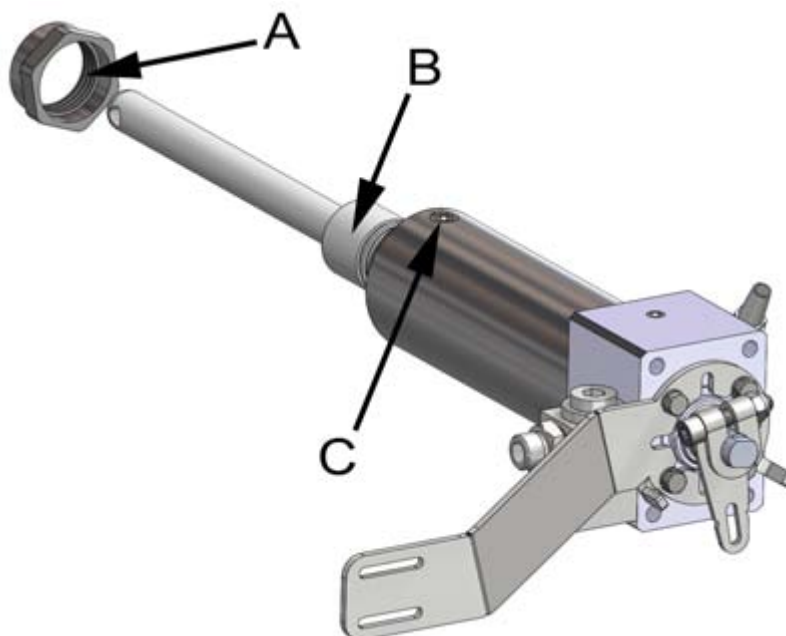
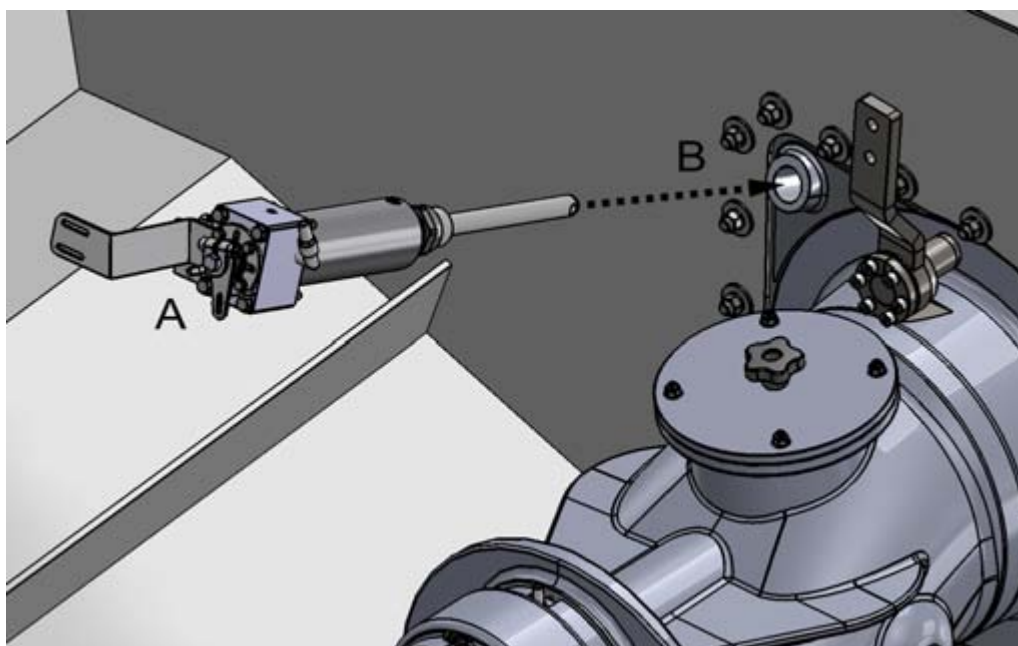
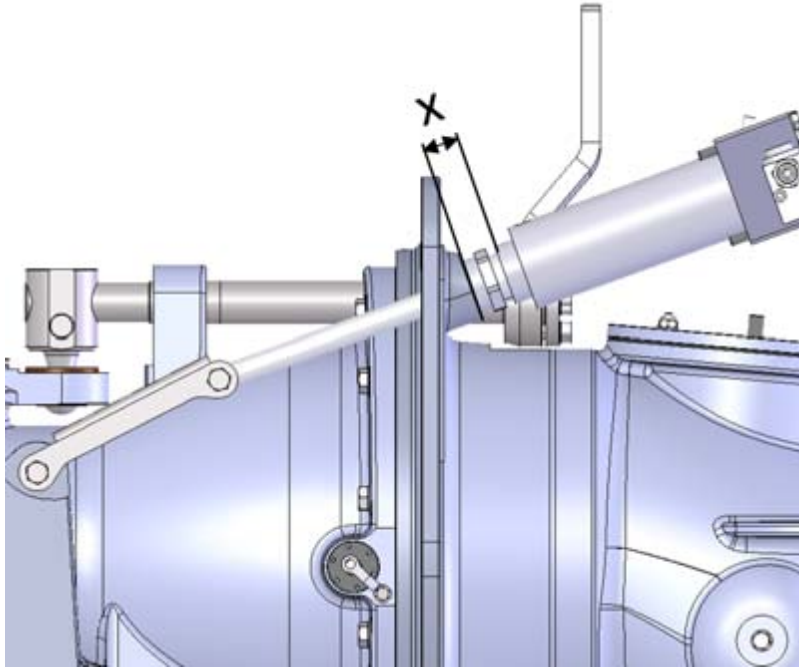

Figure 19. Hydraulic cylinder nut
Figure 20. Attaching the hydraulic cylinder
Figure 22. Installation distance of the hydraulic cylinder
1. Treat the threads of the hydraulic cylinder nut (figure 19, section A) with sealing compound (e.g. Sikaflex 221).
2. Screw the nut all the way down on the thread at the end of the cylinder pipe (figure 19, point B).
4. Screw the hydraulic cylinder onto the adapter bushing (figure 20, point B).
The hydraulic cylinder (figure 20, point A) must be screwed far enough onto the threads to reach the correct measurement ($X=31$ mm, figure 22). The correct position of the hydraulic cylinder is determined by the plugs in the cylinder pipe (figure 19, point C), which must face upwards.